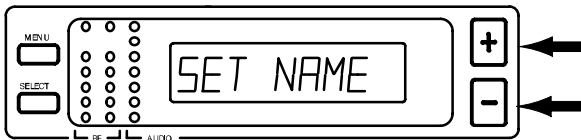

FIGURE 22
- Press either the + or – button to reach the "SET NAME" display, shown in Figure 22.